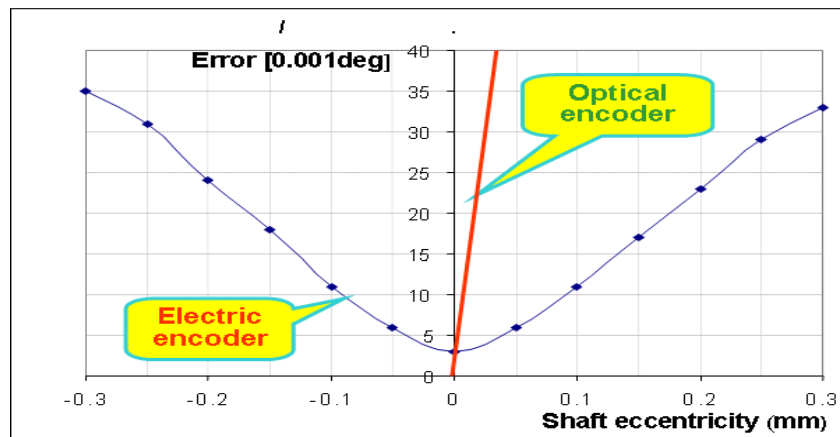

Figure 4
1. Geometrical compensation - each two opposing regions of the encoder react oppositely to both tilt and translation of the rotor plane – shown by white arrows, the **Electric Encoder™** is also tolerant to axial mounting – shown by the red arrow; it thus approaches the “ideal” closer than any other encoder by essentially being sensitive to rotation only. One practical outcome is that, unlike optical encoders with comparable accuracy, no internal ball bearings are needed and the rotor can be directly mounted on the host shaft without flexible shaft coupling or soft stator mounting. This unique floating hollow shaft results in very low profile and enhanced reliability by eliminating the major long-term degradation mechanism. **Figure 4** illustrates the significantly lower error typically induced by rotor eccentricity of the **Electric Encoder™** compared to an optical encoder of the same diameter.